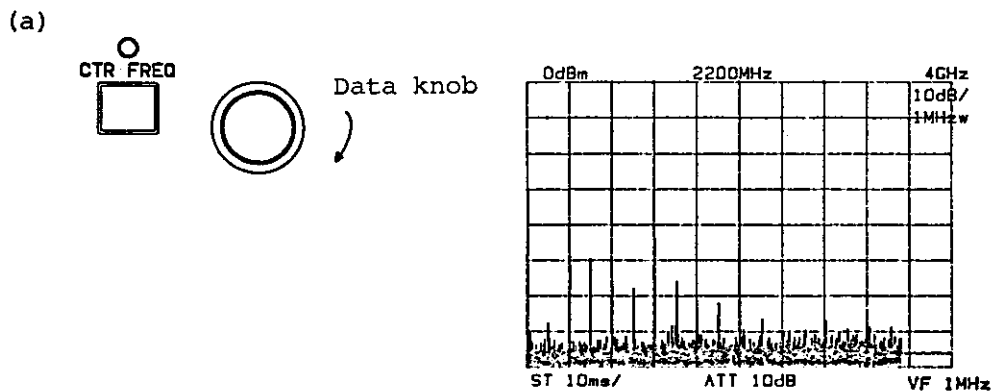

Figure 4-3 CF ADJ
- ③ When the  ,  keys are pressed, the frequency display remains unchanged, but the spectrum moves to the center and the center frequency accuracy becomes 11 times the CAL OUT signal accuracy. (See Figure 4-3 (c).)
- ④ Input an unknown frequency and read the frequency. (See Figure 4-3 (d).)